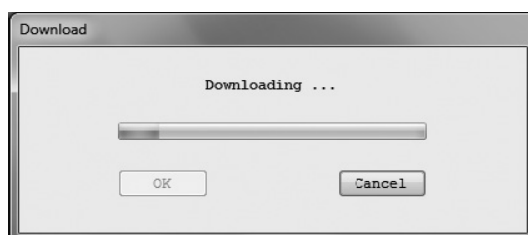

Fig.176
- ⑦ Once the data is downloaded, the various setting values will be modified, and this will change the output values from the flowmeter as well. If the flowmeter's output is used to control valves or other such parts, then for the sake of safety, change the control loop to manual control so that the control loop is not influenced by the flowmeter's output.
- ⑧ After the "OK" button is clicked and the download starts, a message box (Fig. 176) will be displayed. It is possible to verify the state of download progress by watching the progress bar in the middle of the window.